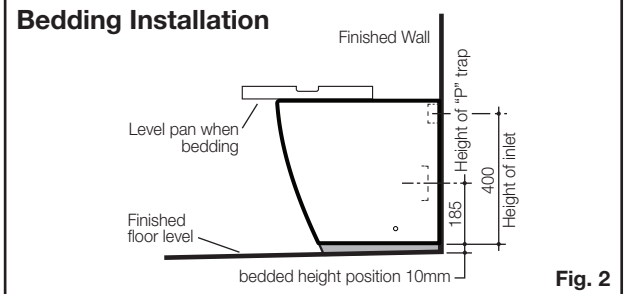

Fig. 2
- 7- Position and push pan into connector ensuring that the flush pipe and keeseal engage into the pan inlet. Level pan into bedding mixture, so that the back of the foot of the pan is approximately 10mm above the finished floor as detailed in Fig. 2. It is recommended that wedges are used to support the foot of the pan during the positioning. **Note:** Allow at least 24 hours for the bedding sealant to set before use.